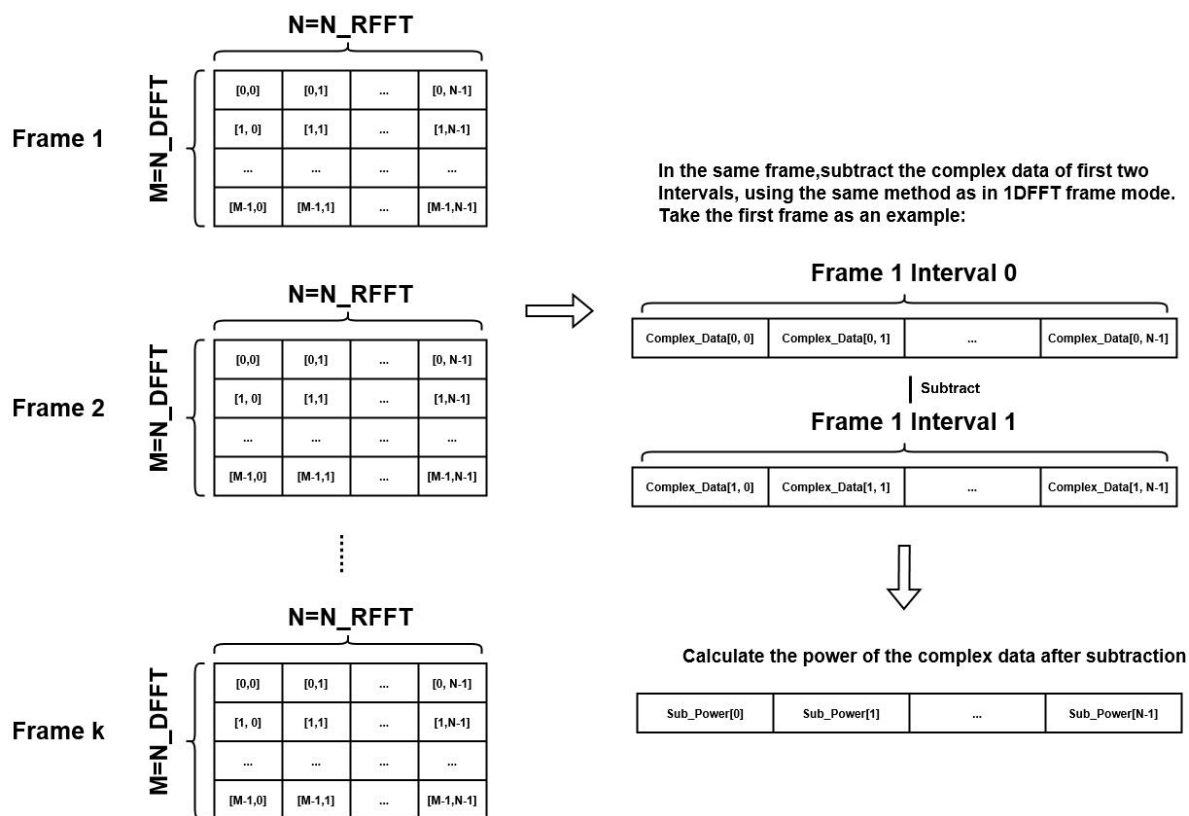

Figure 2-35 Intraframe-Subtraction Calculation
- (5) Intraframe Subtraction: Effective only when Frame Structure is configured for 2D FFT. The first two Intervals in each frame of the DataCube are subtracted before power is calculated, as shown in Figure 2-35.